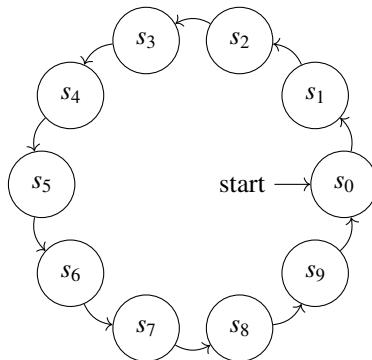

Fig. 6.1: FSM for the decade counter
- Fig. 6.1 shows a *finite state machine* (FSM) diagram for the decade counter in Fig 5.2 s_0 is the state when the input to the incrementing decoder is 0 The *state transition table* for the FSM is Table 3.4, where the present state is denoted by the variables W, X, Y, Z and the next state by A, B, C, D .
For the FSM in Fig 6.1, the number of states is 9, hence the number flipflops required = 4